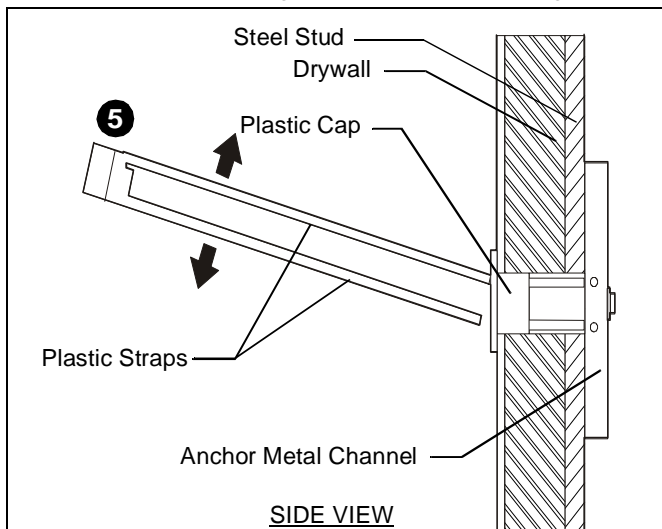

Figure 5
5. Snap off plastic straps on anchor at wall by pushing side to side, snapping off straps level with flange of plastic cap. (See Figure 5)